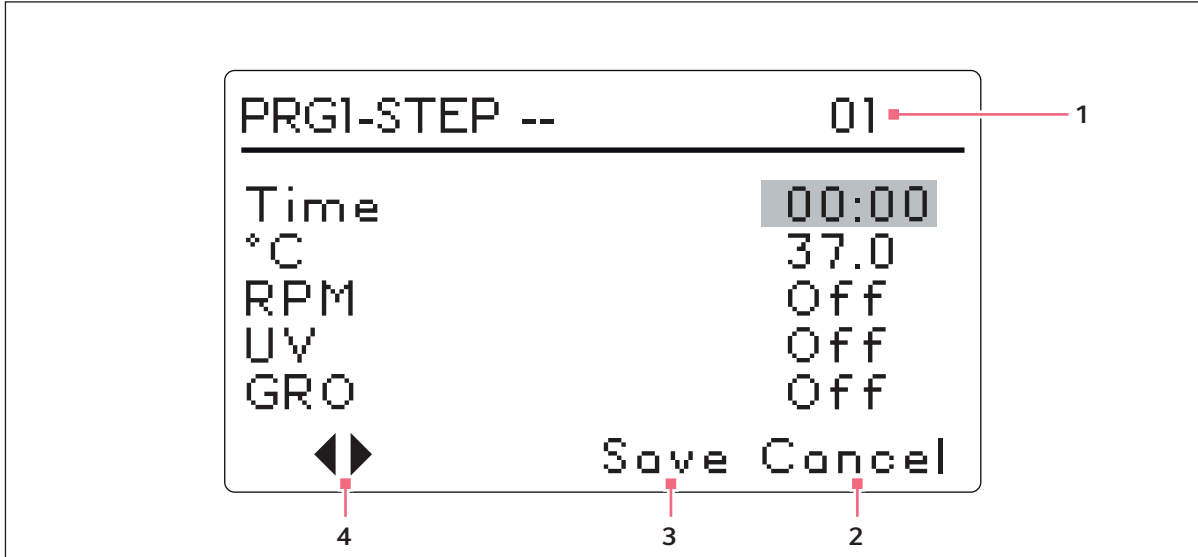

Fig. 5-12: Program 1, Step 1
- Turn the Control Knob until the field says **New**. Click the Control Knob in to select this mode. The screen for Program 1 - Step 1 will open (see Fig. 5-12 on p. 53):